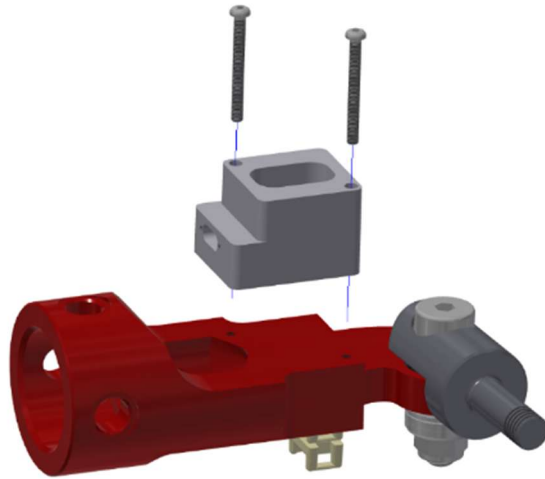

Figure 11-10. Remove the Upper Arm On Board DAS Bracket (474-6118) by removing two M3 X 0.5 X 10 LG. BHCS
11.2.7 Remove the Upper Arm On Board DAS Bracket (481-3602) by removing two M3 X 0.5 X 10 LG. BHCS (Figure 11-10).